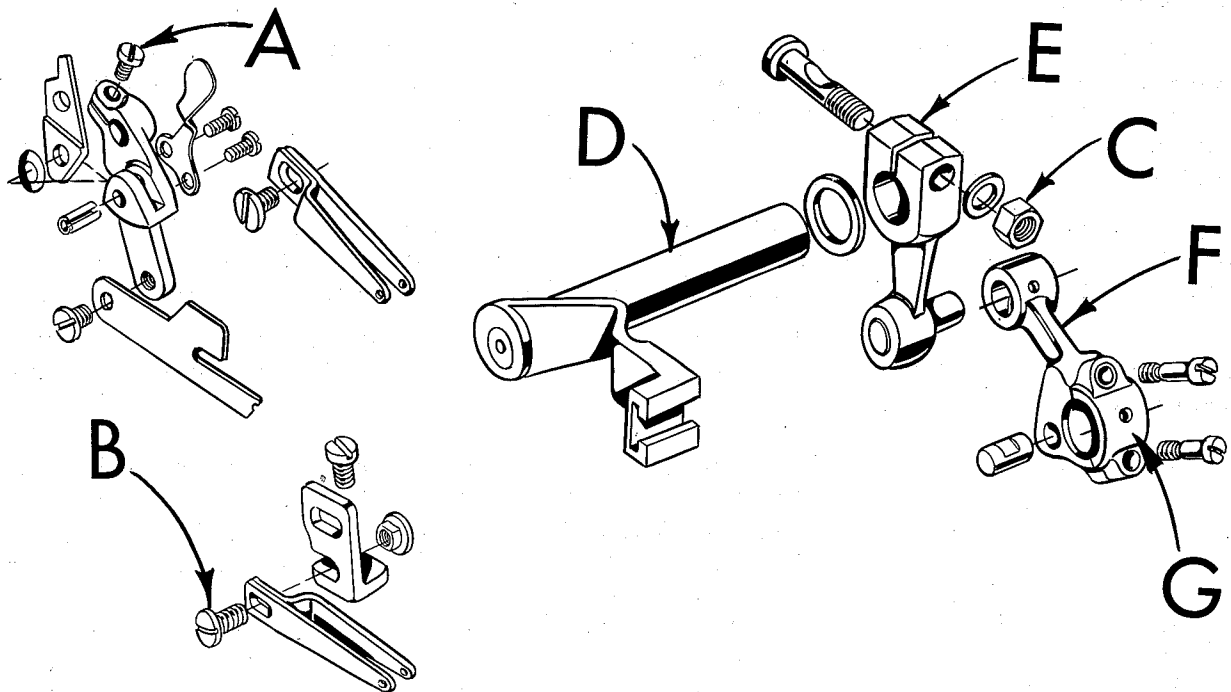

Fig. 26
8. Loosen clamp screw (A, Fig. 26) which holds eyelet bracket and swing bracket up. Loosen screw (B); swing eyelet up. Loosen clamp nut (C) which holds the upper knife driving arm (D). Access to clamp nut is through top cover. Draw driving arm to the left until upper knife driving lever (E) and connecting rod (F) drop, allowing removal of bearing cap (G). This is at bearing point (C, Fig. 25) on crankshaft. Observe same precautions when reassembling cap as described in paragraph 7.